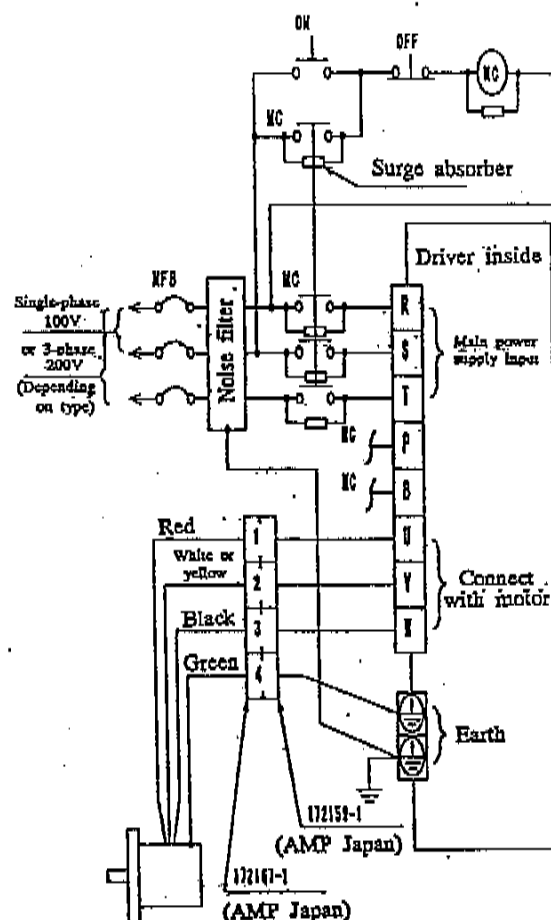

Fig. 5-1 Example of wiring to terminal block
- (1) The cover of the terminal block is fit with screws. In wiring to the terminal block, remove the screws and open the cover.
- (2) Firmly wire according to Fig. 5-1 "Example of wiring to terminal block".
- (3) As for units for wiring and electric wires to be used, refer to 5-2 [Selection of units for wiring] (Page 21).
- (4) As for voltage of main power supply and control power supply, apply voltage indicated by the name plate.
- (5) Do not confuse in connecting the main power supply input terminals (R.S.T) and the output terminals for motor (U.V.W).
- (6) Do not earth or short-circuit the output terminals for motor (U.V.W)